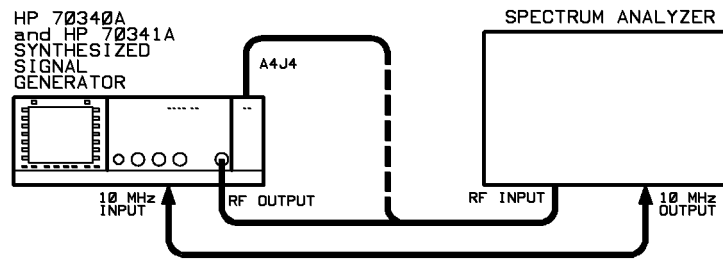

Figure 1-9. A4 CW Check Setup
3. Connect a spectrum analyzer to A4J4 as shown in Figure 1-9.